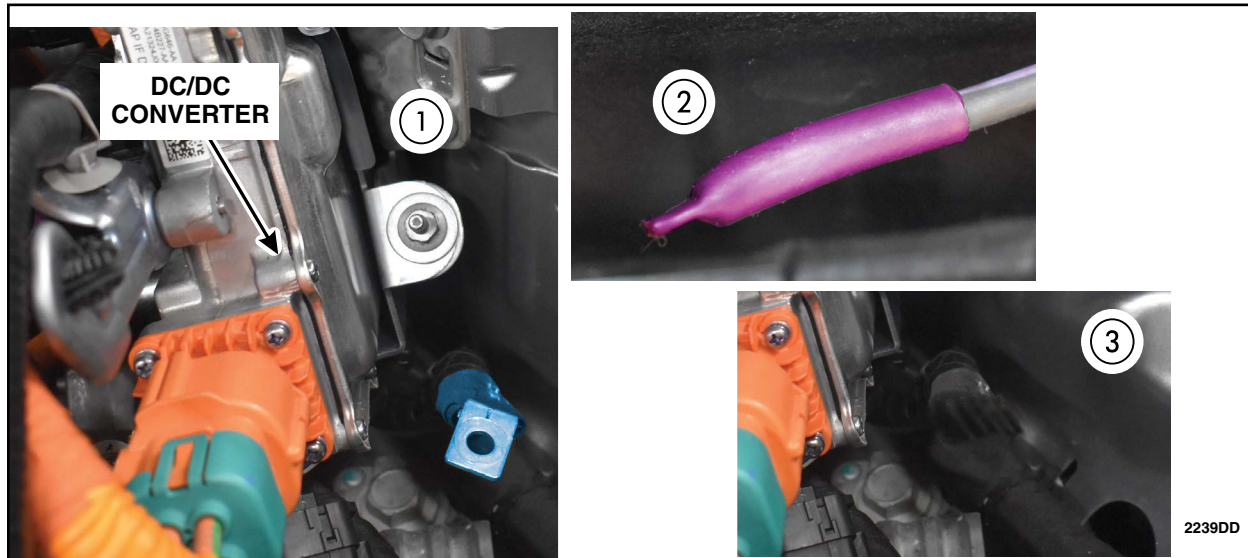

FIGURE 27
32. Under the hood cut terminal end off of the old harness. Add Dual Wall Heat Shrink tubing to cover the open end of the wire and secure with tape. Secure to harness. See Figure 27.